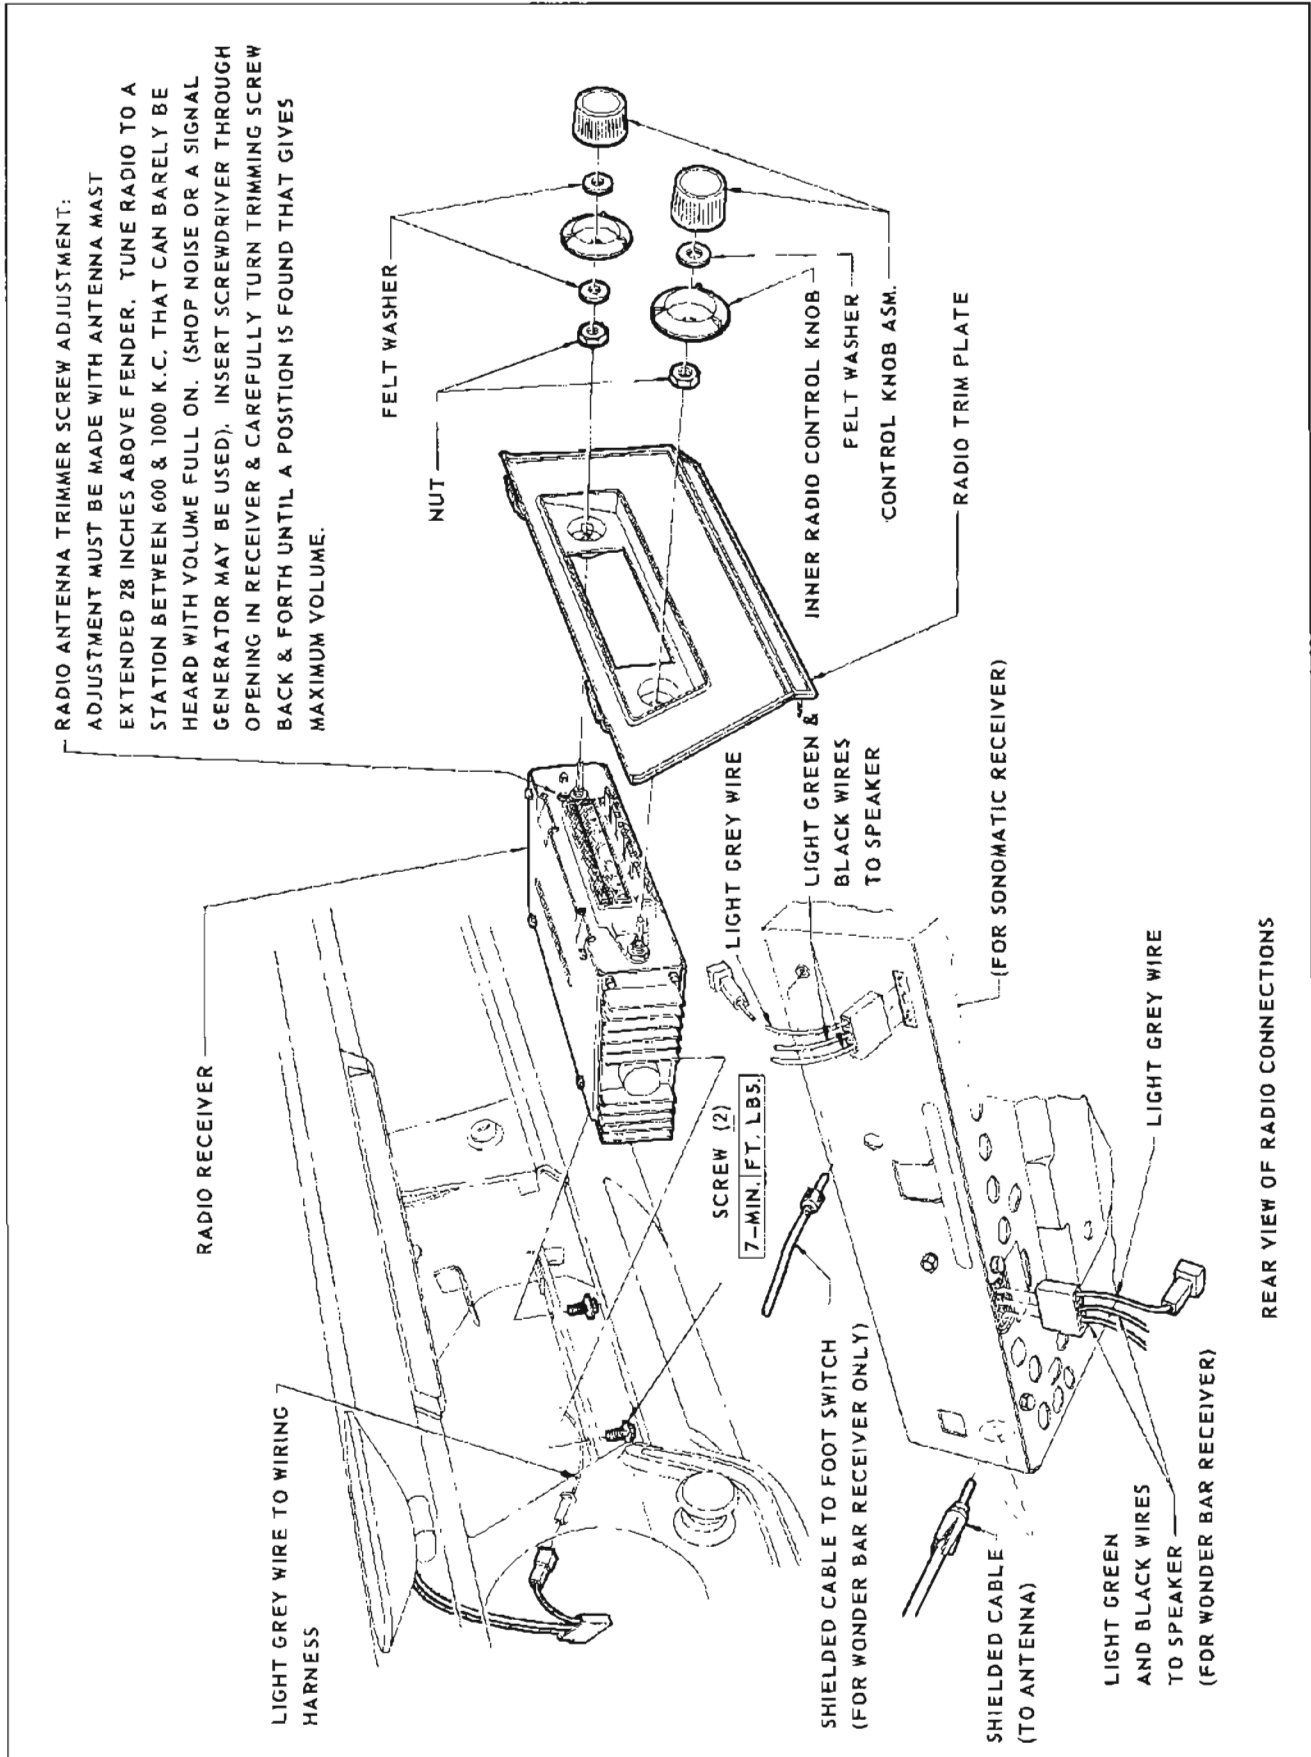

Figure 11-6--Radio Receiver Installation - 4400, 4600 and 4800 Series
(c) Insert a screwdriver in antenna trimmer screw and rotate screw to achieve maximum volume (see Figures 11-6 and 11-7).
4. Remove two screws holding underside of receiver to cross support (see Figure 11-6) and partially withdraw radio trim plate and receiver.